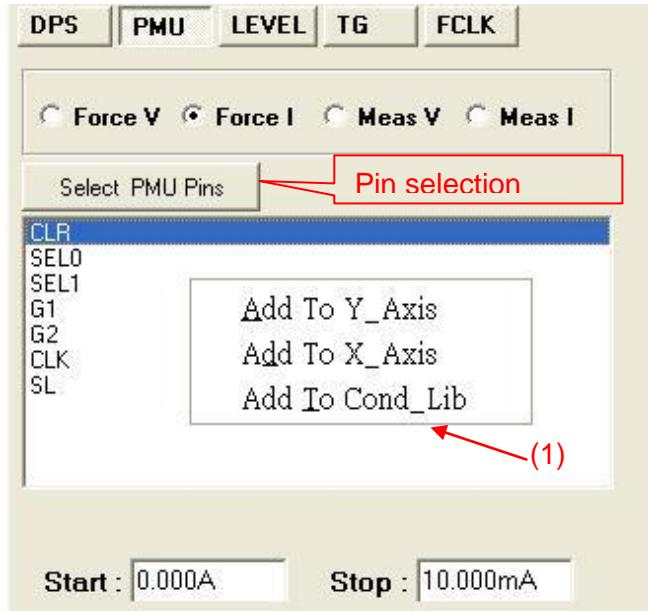

Figure 11-3 Setup Window (PMU)
- (1) There are setup pages of DPS, PMU, PREF, UVI, TG, LEVELS and FCLK. If there is a Pin selection button, press it to select the pins. Key in the “Start” and “Stop” values. Click the right button of mouse to popup a menu ((1) of Figure 11-3).
- (2) For the DC measure conditions, Meas_I_DPS, Meas_V_PMU, Meas_I_PMU, can be